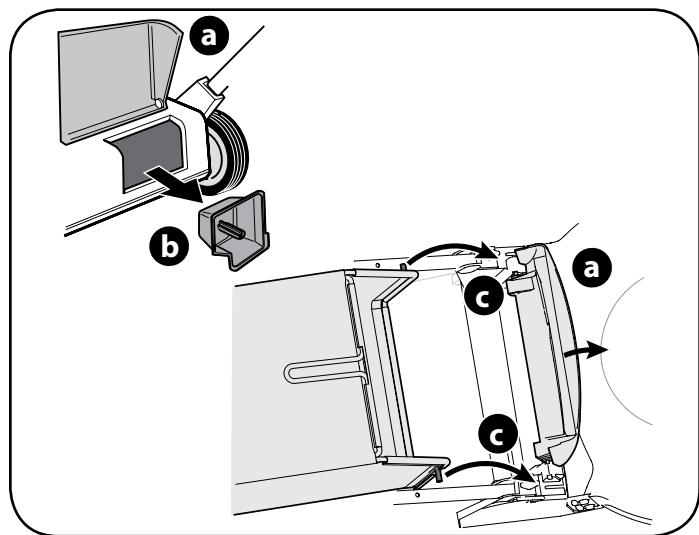

Figure 7
- c. Place grass catcher into the slots in the handle brackets as shown in Figure 7. Let go of discharge door so that it rests on the grass catcher.